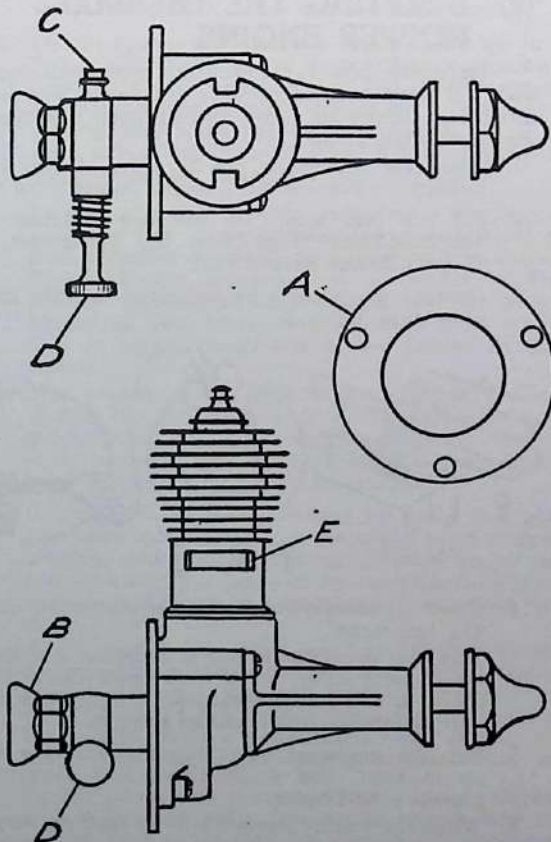

FIG. 1 · FULL SIZE
2. Mount the engine in the plane or if you want to give it some running first, mount it on a narrow board, about 2" wide and fasten the other end of the board in a vise or nail it to something. **Do not hold the engine directly in a vise.** Use the template, A-Fig. 1, to drill mounting holes and carburetor hole. The screened nut, B-Fig. 1, in the rear is the air intake hole and must be left open.
4. Mount the fuel tank as closely as possible and for quicker starting mount it so the fuel level when full is lightly higher than the carburetor venturi. Connect the tank to the carburetor by slipping the fuel line over the fuel line fitting C Fig. 1.
1. Close the carburetor needle valve. D-Fig. 1, by turning it clockwise till it stops. Do not force it.
5. Turn the propeller to the position so that the exhaust ports E-Fig. 1 are wide open. Squirt 5 or 6 drops of fuel into the cylinder through one of the port openings. This is called priming.
3. If engine fires with a burst of power then dies repeatedly after each time it is primed, and this is not cured by opening the needle valve more, the fuel jet is stopped up. If the engine has not been run for some time it is likely that it is only stopped up with castor oil. Choke the engine by holding a finger over the intake, B-Fig. 1, and flip the propeller over 3 or 4 times. This will remove the castor oil and the engine should start. If the same symptoms re-occur, the jet possibly has dirt in it and this should be cleaned out as per next paragraph.